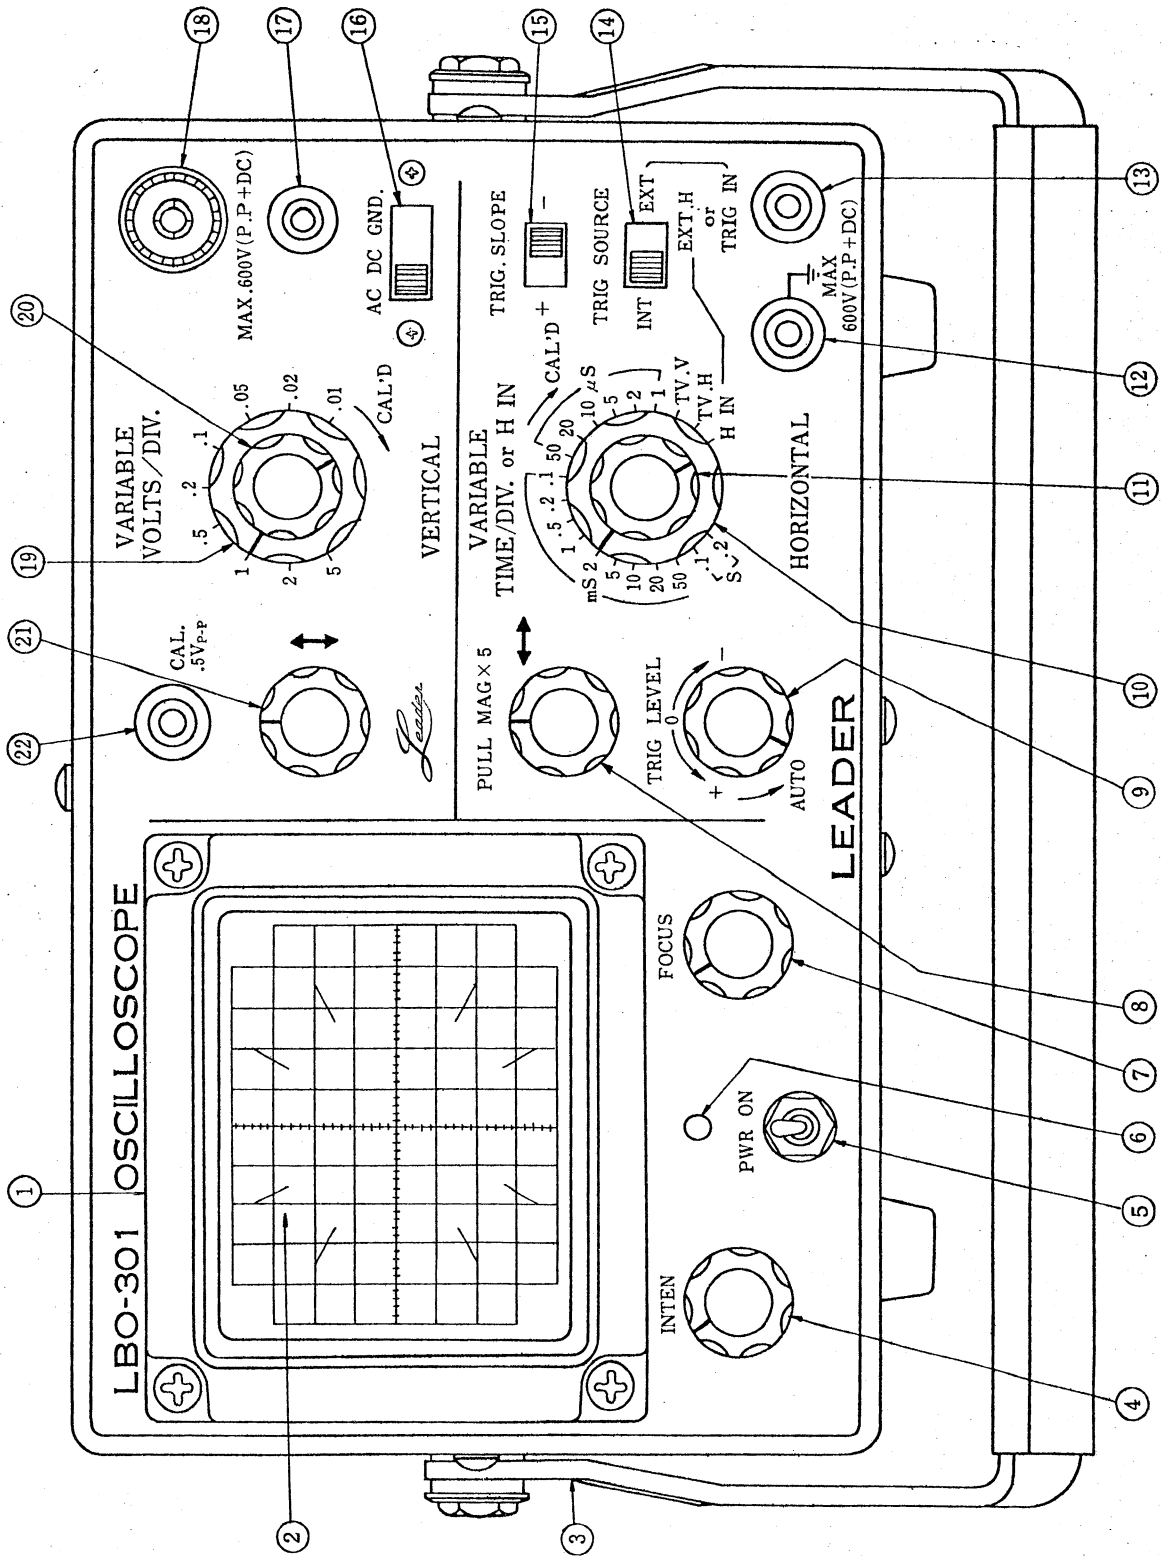

Fig. 2-1 Front panel control
2.2 Front Panel, (Fig. 2-1)
- PULL MAG $\times 5$ The knob when pulled forward magnifies the sweep time by a factor of 5 at all TIME/DIV settings of switch 10, Fig. 2-1.